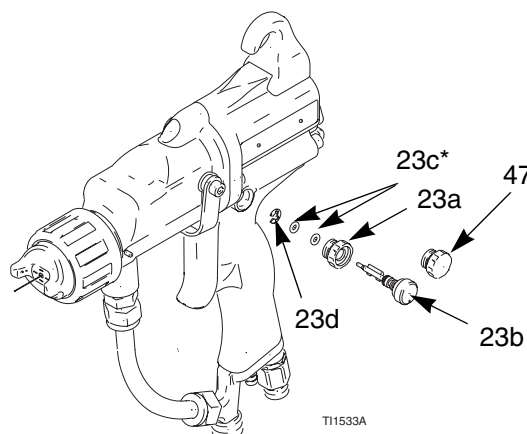

Fig. 19. Atomizing Air Valve
2. Remove the atomizing air restrictor valve (23). Inspect the o-ring (23c*). Replace if necessary. See FIG. 19..
3. Install a new atomizing air restrictor valve (23), or disassemble and replace parts individually. The valve protrusion must be oriented to clear the air valve (21) shaft.